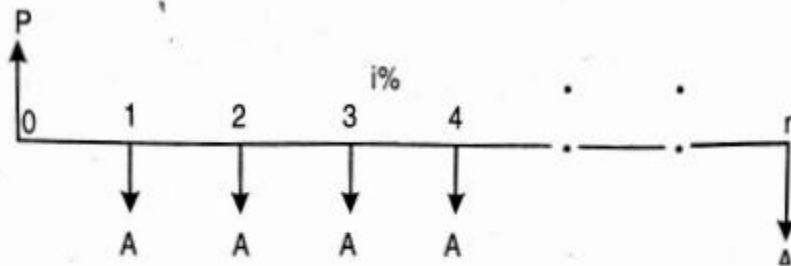

Fig. 4.10 : Cash flow diagram of equal-payment series present recovery amount
The objective of this mode of investment is to find the annual equivalent amount (A) which is to be recovered at the end of every interest period for n interest periods for a loan (P) which is sanctioned now at an interest rate of i compounded at the end of every interest period (Fig. 4.10).
In Fig. 4.10,